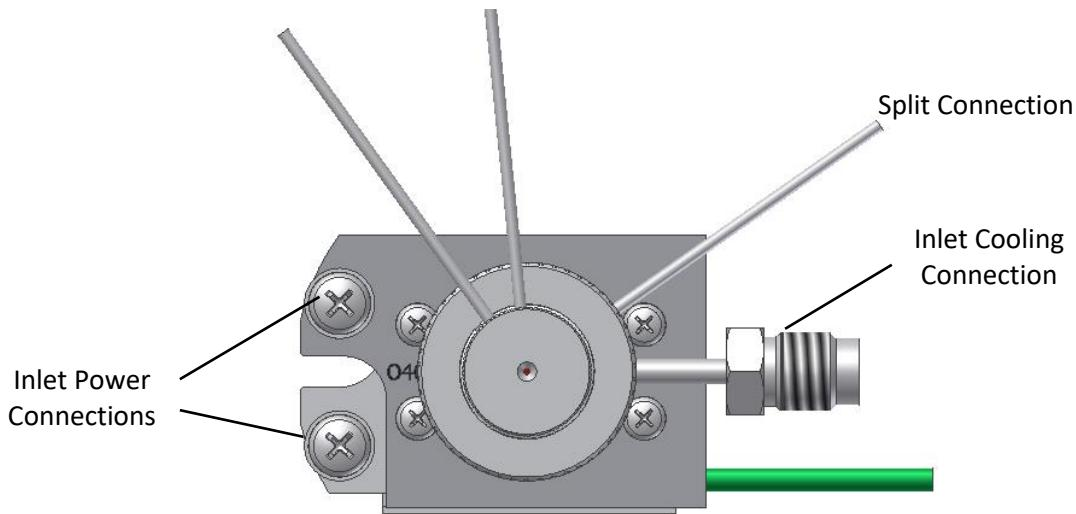

Figure 4.4 OPTIC-4 Inlet Top View
2. Connect a piece of the PTFE tubing between the “**To Inlet**” port of the solenoid valve and the inlet cooling connection (Fig. 4.4).